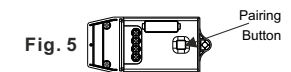

Fig. 5
Step 2: Press the pairing button on the controller for 3 seconds, the controller indicator flashes slowly (flashing once every second) and then release the button. The controller enters the pairing mode (Fig.5).